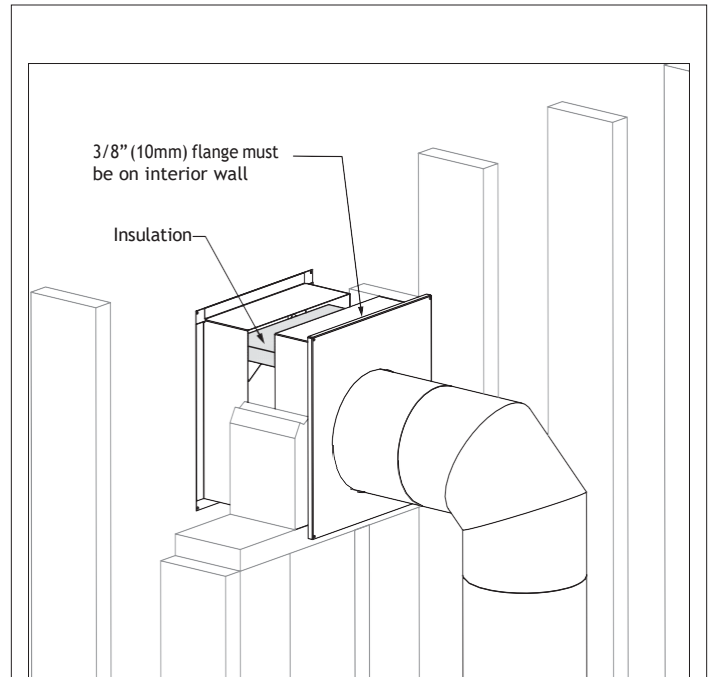

Figure 7.3, #800-WPT & #800-WPT2 Installation
2. Install wall pass-through section marked #1 (with 3/8" [10mm] flange) into framed opening. Secure to interior wall with screws (not provided). See FIGURE 7.3.